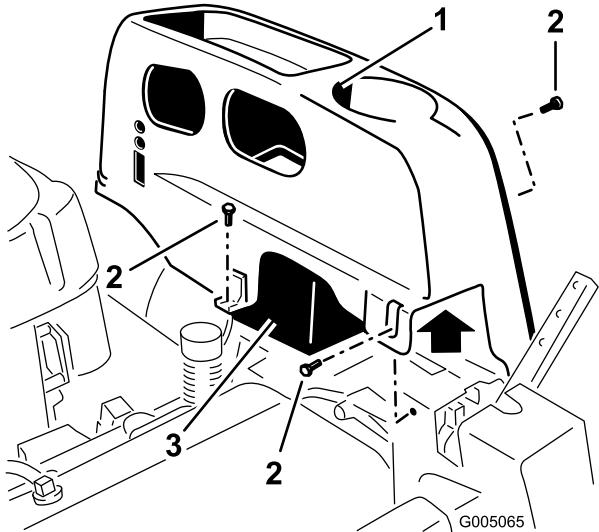

Figure 24
2. Remove the TORX® head fasteners (T25) securing the left cover to the frame as shown in Figure 24.